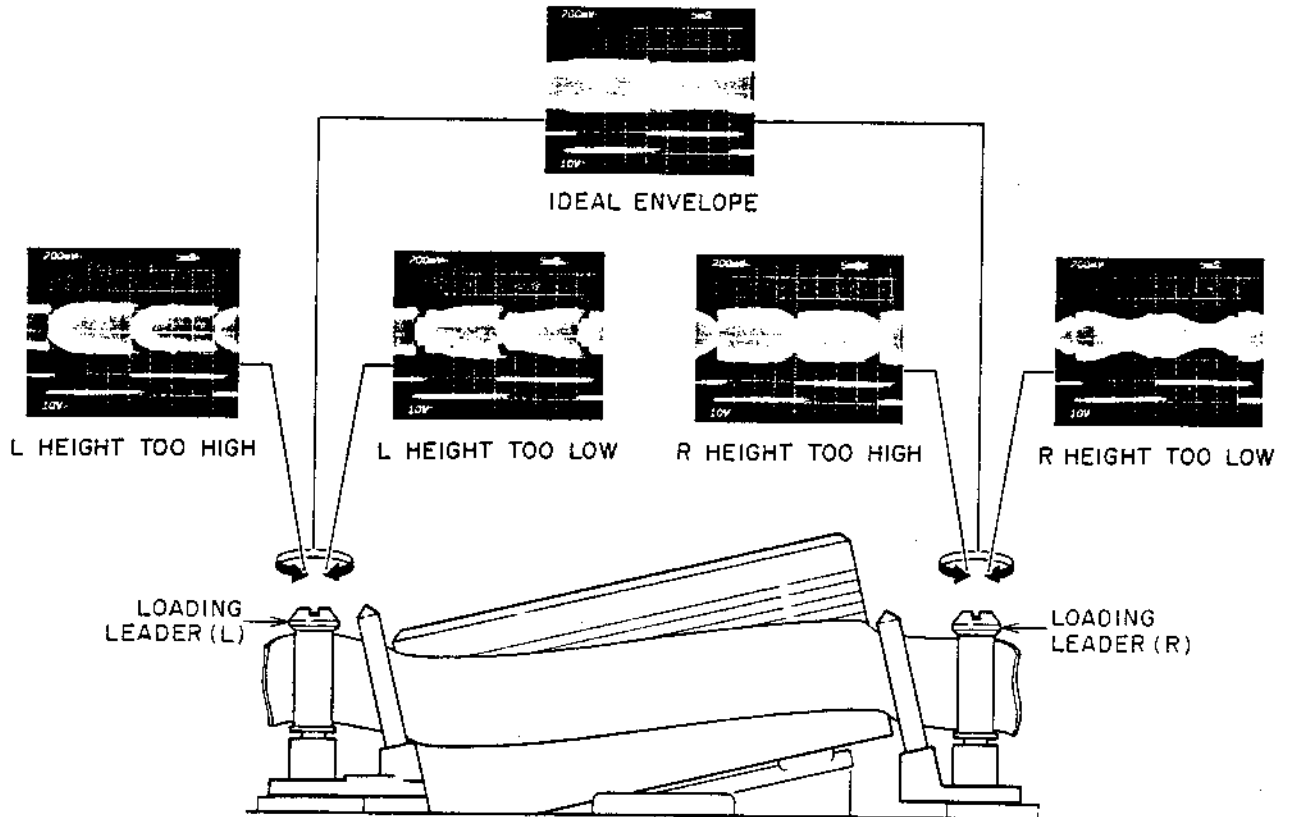

Fig. 6-4
- 3) Connect an oscilloscope to TP3 on the Pre-Amp. P.C Board (RF ENVELOPE), turn the LOADING LEADER height adjustment screw head to obtain the flat envelope as Fig. 6-4 ideal envelope.
- 2) Slightly turn the LOADING LEADER HEIGHT ADJUSTMENT SCREW HEAD (L) (R) to obtain the IDEAL ENVELOPE as shown in Fig. 6-4.